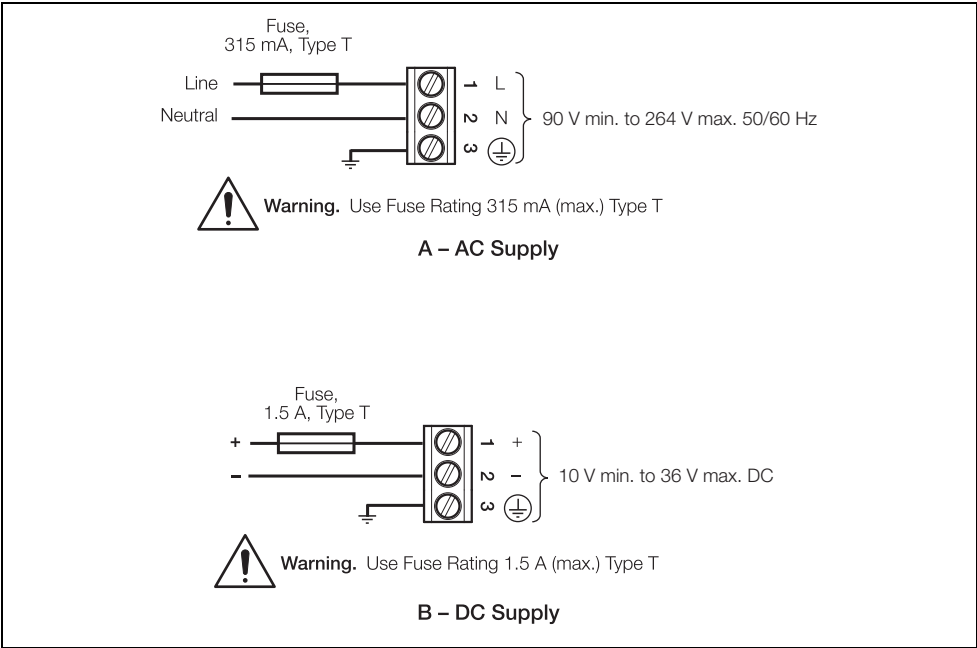

Fig. 2.11 Power Supply Connections
- The recorder is not fitted with a switch therefore a disconnecting device such as a switch or circuit breaker conforming to local safety standards must be fitted to the final installation. It must be fitted in close proximity to the recorder within easy reach of the operator and must be marked clearly as the disconnection device for the recorder. A fuse must be fitted in accordance with Fig. 2.11.